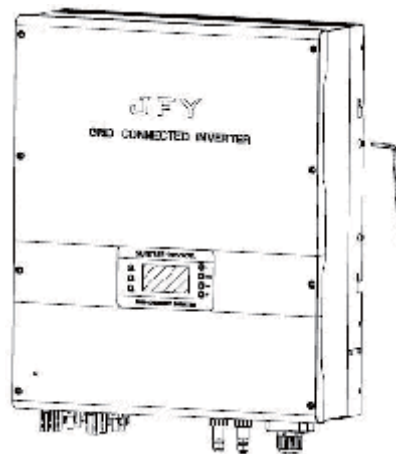

Fig.6 Fix safety-lock screws
**NOTE:** Ensure Suntime xxxxxTL is not exposed to direct sun radiation or other external heat sources, including heat from units below it (see fig.6). Indeed, the heat generated by the inverters of the bottom
demonstrated in dashed border in Fig.6. –S suffix indicates the inverter is integrated a DC switch in PV input side.